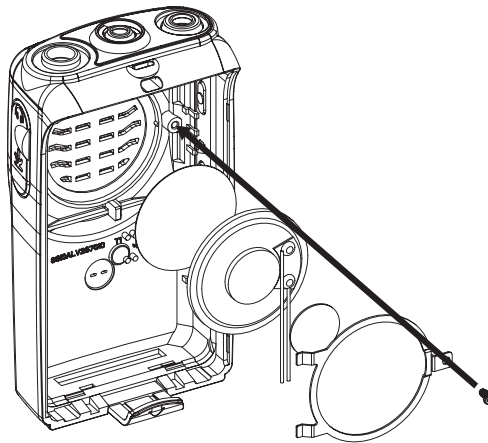

Figure 2-8
1. Place the speaker felt onto the grille area (see “Figure 2-8”) .